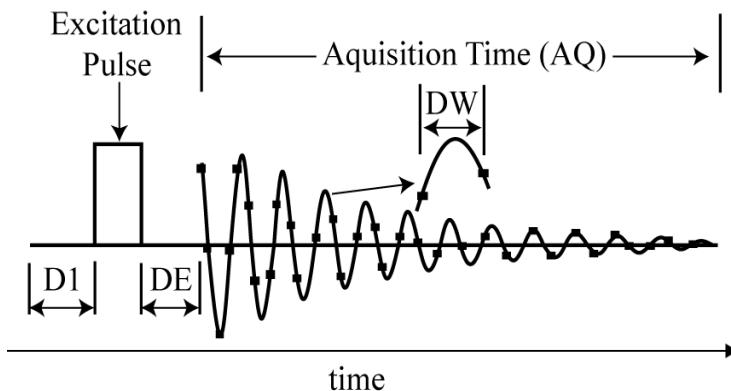

Figure 15 Pulse sequence diagram illustrating the acquisition parameters.
Each parameter has a brief description located to the left of it. Users should **NEVER** adjust the Channel f1 or Channel f2 parameters located below the black line in the figure above. These are the pulse power and pulse duration parameters and adjusting them can result in **SEVERE** probe damage and a very costly repair. Furthermore, the TD0 and PULPROG parameters should never be adjusted by the user. The receiver gain (RG) parameter is automatically set when the user carries out an acquisition. The remaining parameters and how they apply to the acquisition of an FID is shown below (figure 15) in what is known as a pulse sequence diagram: